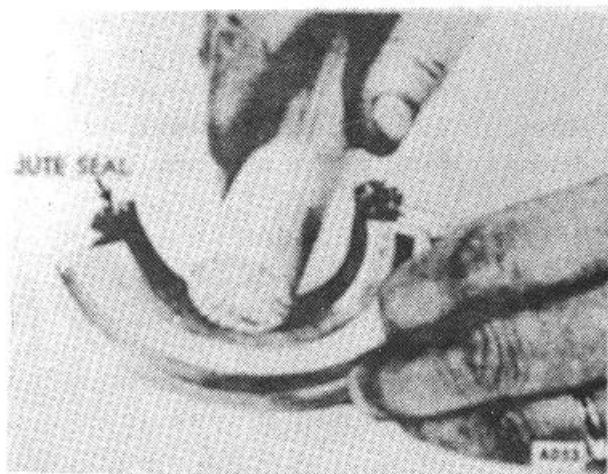

Figure 52.
4. Press it into the grooves of both the filler block and oil guard as well as possible by hand. Then, using a piston pin, smooth hammer handle or some other tool with a smooth, rounded surface, iron the packing into the groove so that it is seated firmly and expanded to grip the sides. (Fig. 52) In its present condition the packing is long enough to protrude from the groove at both ends.